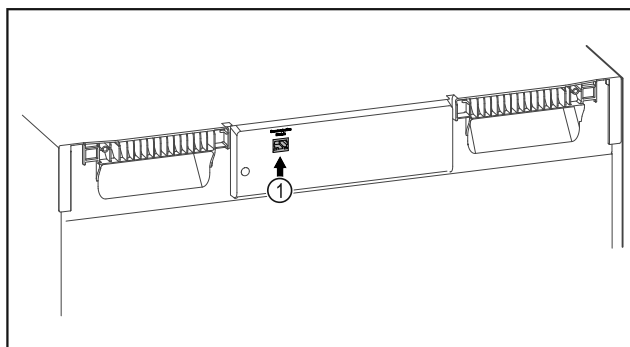

Fig. 121
- ☐ SmartModule Fig. 121 (1) is in use.